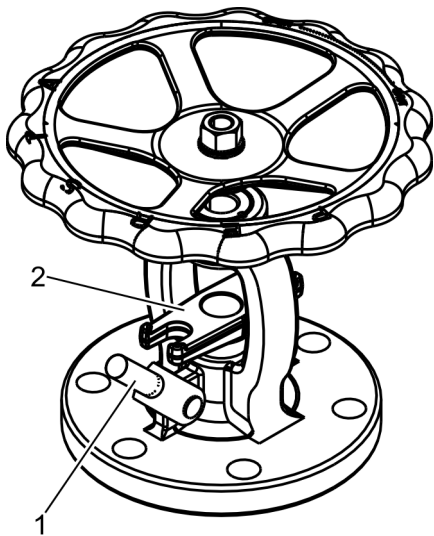

Fig. 31: Turning down the packing bolts
- 19. ▶ Turn down the packing bolts (Fig. 31/1).
- 20. ▶ Remove the gland follower flange (Fig. 31/2).